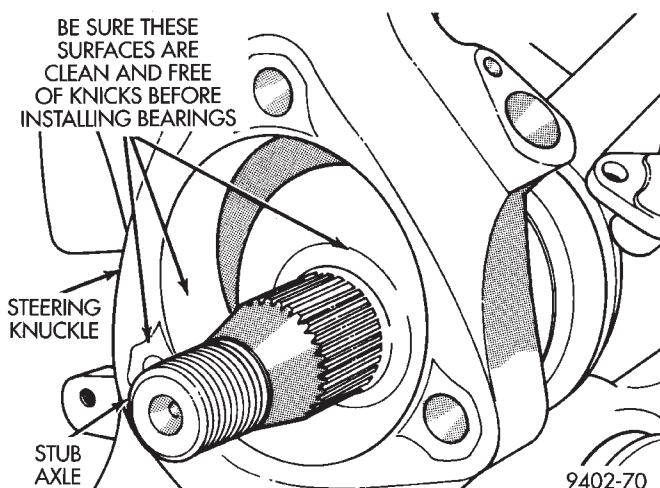

**Fig. 27 Hub And Bearing Assembly Mounting Surfaces**
**CAUTION:** Hub and bearing assembly mounting surfaces on steering knuckle and halfshaft (Fig. 27) must be smooth and completely free of foreign material or nicks.